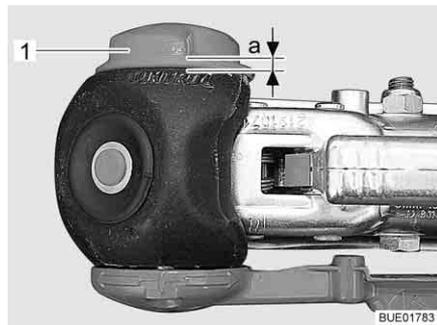

Fig. 197 Friction control
- Turn the handwheel (Fig. 197,1), until it can be heard and felt that the torque limiting mechanism grates. Rotation direction: clockwise.
- Distance $a > 0$ (Fig. 197): Wear within the permissible range.